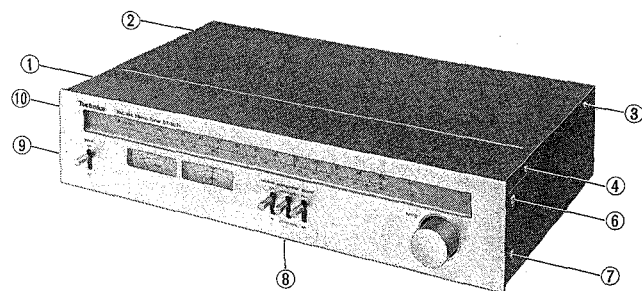
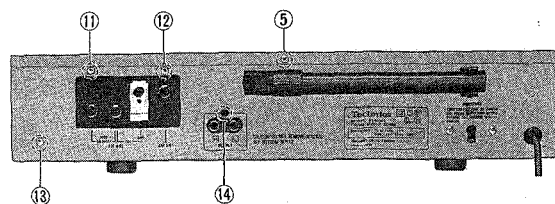

Fig. 1
Fig. 2
1. Remove 5 setscrews (①~④ in Fig. 1 and ⑤ in Fig. 2) which fasten the top board.
3. Remove 5 setscrews (⑥~⑩ in Fig. 1) of the front panel.
4. Remove 3 setscrews (⑪~⑬ in Fig. 2) and 1 latch (No. ⑭ in Fig. 2) of the rear panel.